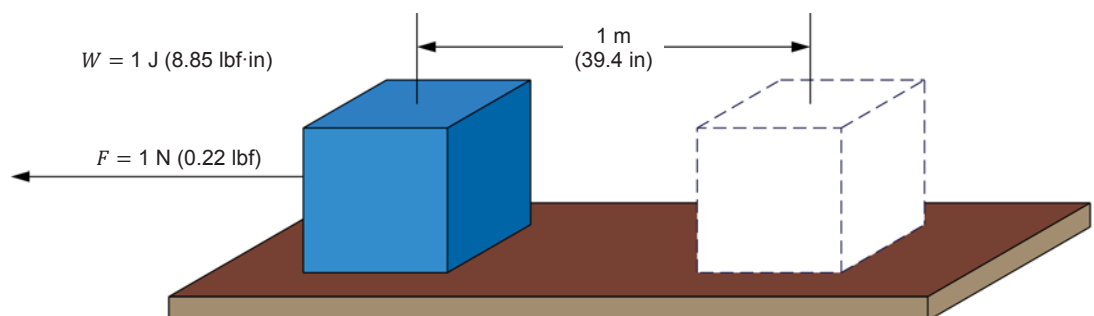
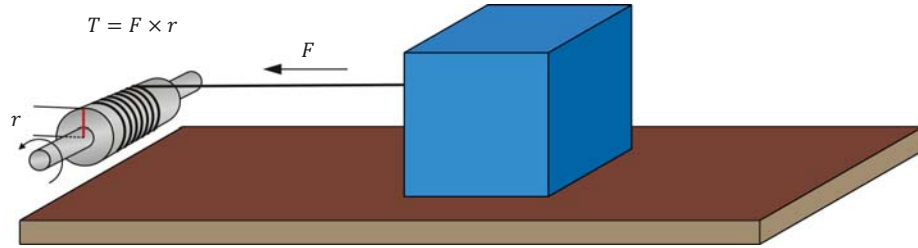

Figure 1. Work required to move a block.
Figure 2. Moving a block using a pulley.
- $W$  is the mechanical work done by the force, expressed in joules (J) or in pound-force inches (lbf·in).
- $F$  is the magnitude of the force moving the object, expressed in newtons (N) or in pound-forces (lbf).
Figure 1 shows the example of a block that is moved over a distance  $d$  of 1 m (39.4 in) by a force  $F$  of 1 N (0.22 lbf). Using Equation (1), it can be calculated that a mechanical work  $W$  of 1 J (8.85 lbf·in) has been done.
Consider now that the block in Figure 1 is moved over the same distance using a pulley that has a radius  $r$ , as shown in Figure 2.